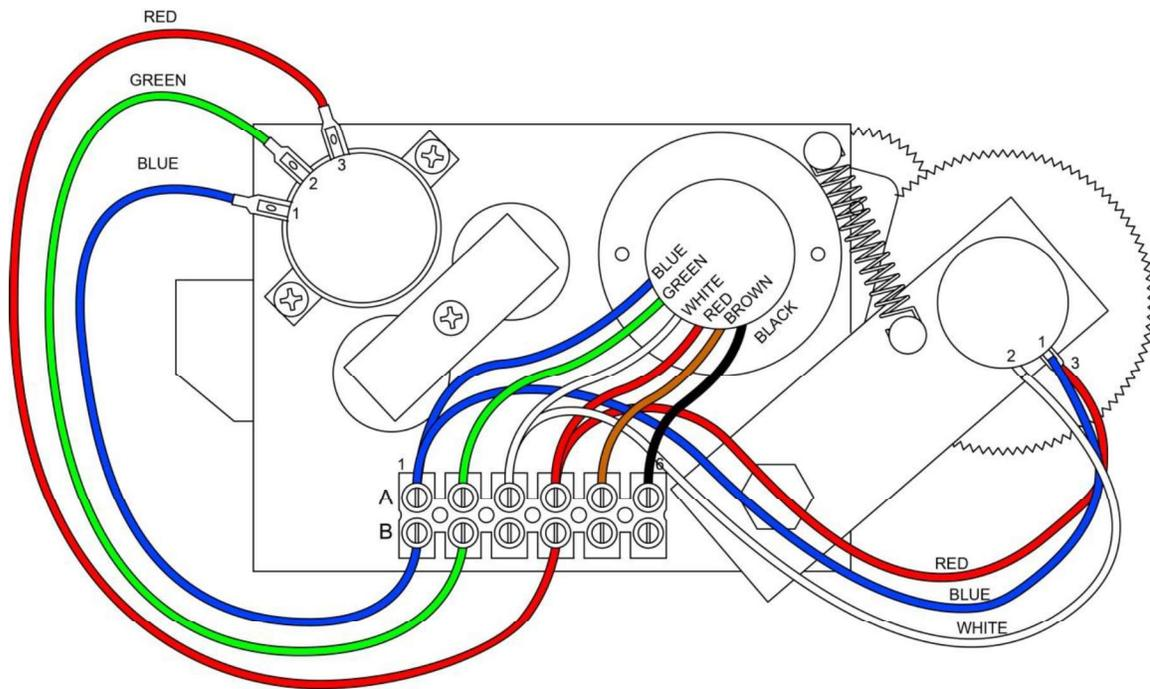

FIGURE 5.7.3 - SENSOR BASEPLATE ASSEMBLY WIRING
5. Measure the voltage between TB1-3 and TB1-1 (Figure. 5.7.3)